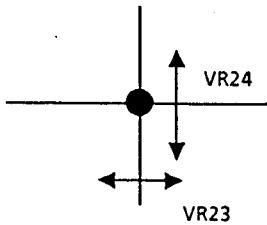

Fig. 4-7
- Adjust VR23 and VR24 so that the vector positions on the center of the vectorscope and the carrier leak of the video signal on the waveform monitor becomes minimum. (Fig. 4-7)